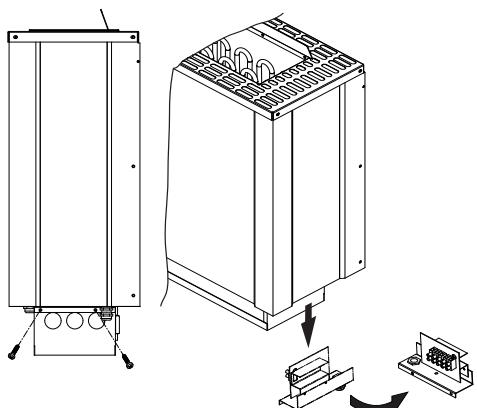

Fig. 3
3. In order to connect the power supply cable first undo both screws as shown in fig. 3 and pull the terminal block downwards (fig. 3a).